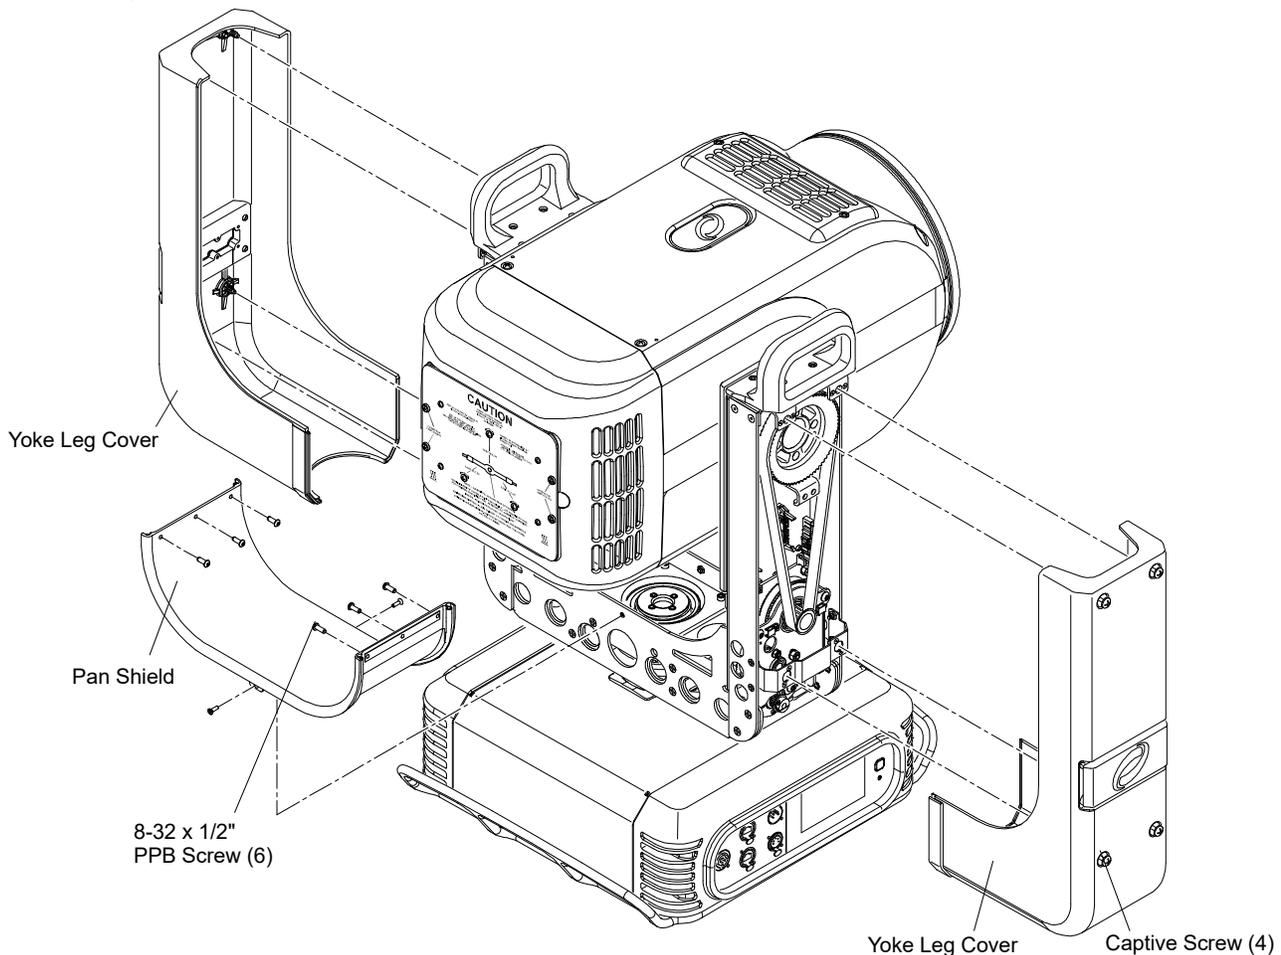

Figure 3-58: Removing Yoke Leg Covers and Pan Shield
- Step 2. Remove both Yoke Leg Covers by loosening four captive screws each (**Figure 3-58**).